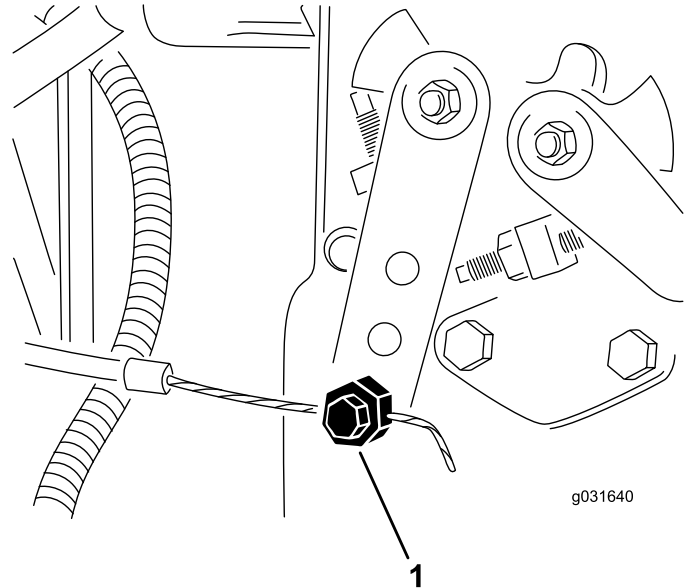

Figure 63
2. Loosen the throttle-cable connector on the injection-pump-lever arm (Figure 63).